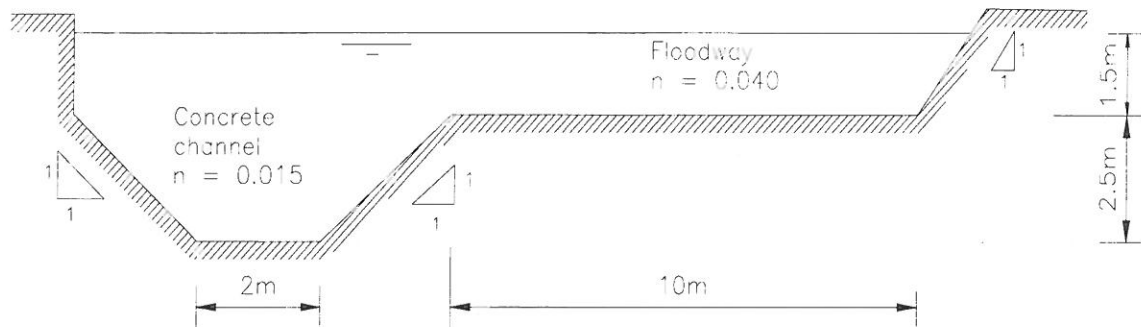

Fig. 3.2
3.3 Water flows in a compound channel whose bed slope is 0.002 and whose cross section is as shown in **Fig. 3.2** below. The Manning's coefficient for the concrete channel section, $n = 0.015$ while that for the floodway section is $n = 0.040$. The dimensions of different subsections of this compound channel are also given in the figure. Assuming steady uniform flow, determine the flow rate through the whole channel. (16)